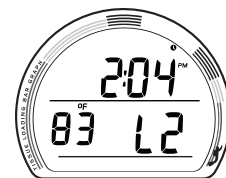

Fig. 97 - GAUG SURF ALT 2
**GAUG SURF ALT 2**, information includes (Fig. 97):